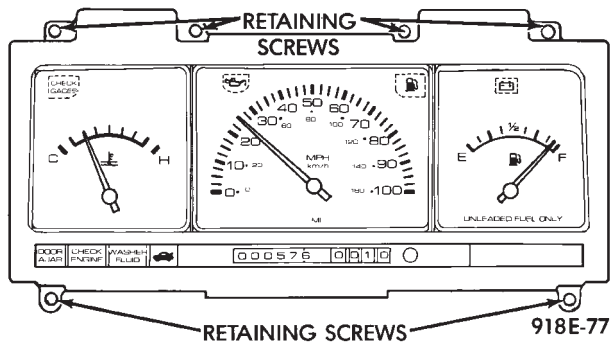

Fig. 15 Gauge Assembly Without Tachometer
(4) Remove cluster bezel and disconnect POD switch wire connectors.
(5) Remove cluster lens.
(6) Remove six screws attaching gauge to cluster (Fig. 15 and 16).
(7) Remove fuel gauge.
(8) For installation reverse above procedures.
- (4) Remove cluster bezel and disconnect POD switch wire connectors.
- (5) Remove cluster lens.
- (6) Remove six screws attaching gauge to cluster (Fig. 15 or 16).
- (7) Remove voltmeter gauge.
- (8) For installation reverse above procedures.
- (7) Remove temperature gauge.
- (7) Remove oil pressure gauge.
- (7) Remove tachometer gauge.
- (7) Remove speedometer gauge.